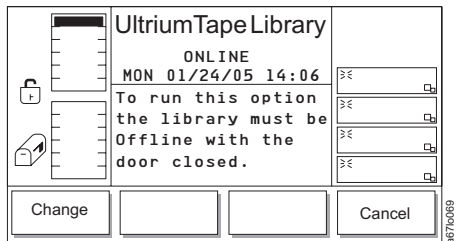

Figure 4-162. Library Submenu
- Press the button below the **Library** softkey. The Library Submenu displays (see Figure 4-162).